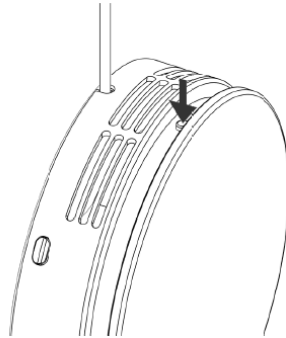

Figure 8 - Turn off the unit
1. Turn the unit off by touching the button on top until it turns off, see Figure 8 below.